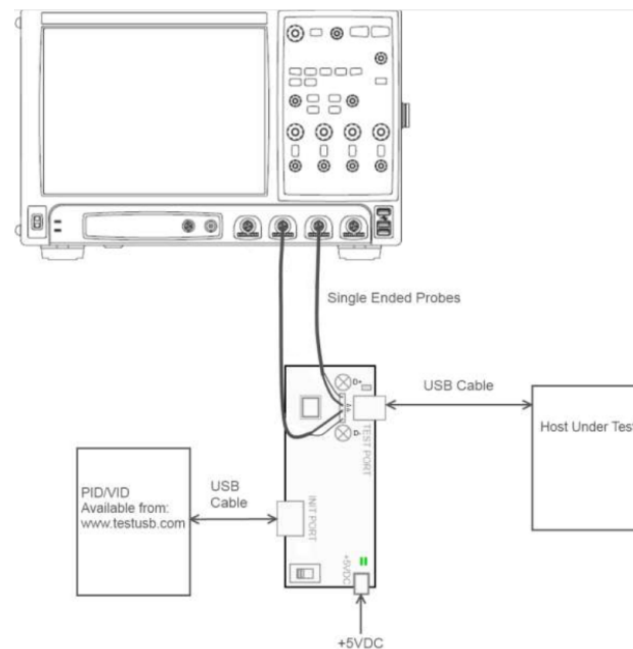

Figure 47. Host CHIRP Timing test connection
2. Connect the test-embedded host board, fixture, and oscilloscope, as shown in Figure 47. Connect the 50 ohm terminator to the SMA interface on the fixture. Verify that the switch in the fixture is OFF, the green Power LED is lit, and the yellow test LED is not lit.
2. Connect the test embedded host board, fixture, and oscilloscope, as shown in Figure 47. Connect the 50 ohm terminator to the SMA interface on the fixture. Verify that the switch in the fixture is OFF, the green Power LED is lit, and the yellow test LED is not lit.